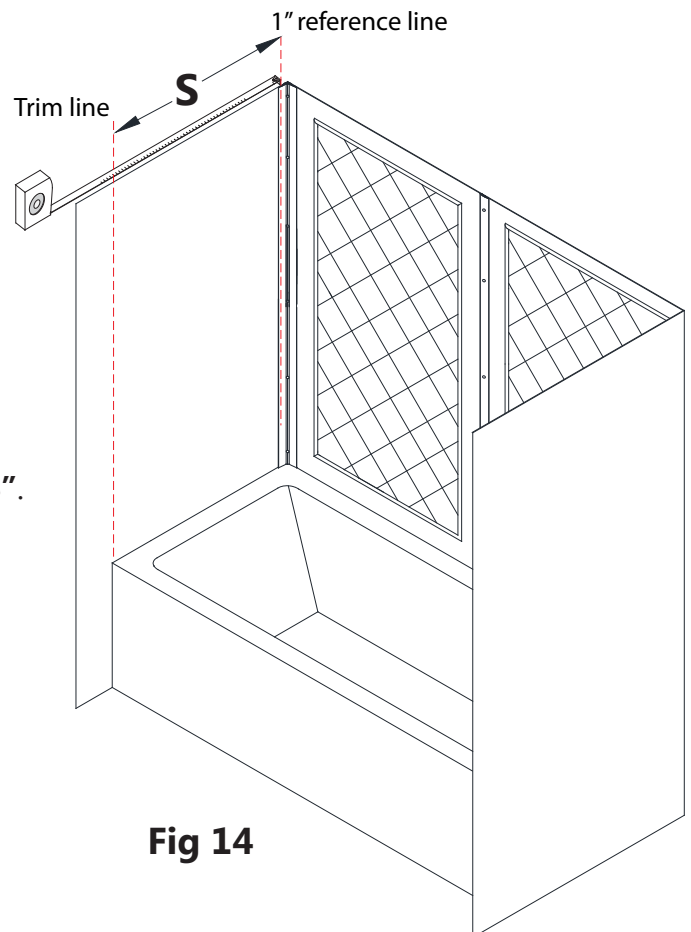

Fig 14
14. Measure from the 1" reference line to the **D** dimension line from **Step #3**. This will be dimension "**S**". (**Fig 14**)